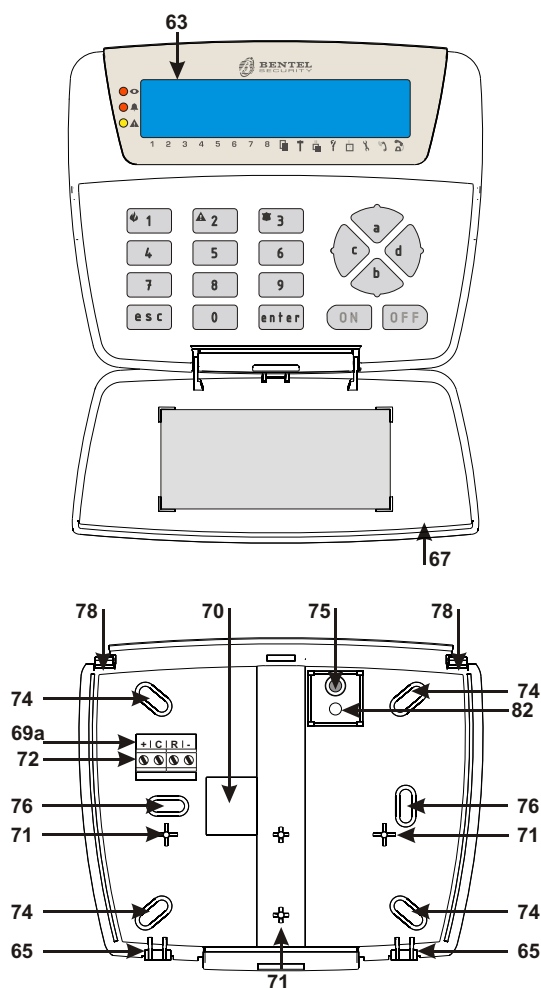

Figure 4 Parts of CLASSIKA LCD Keypad.
1. If the Keypads are closed, insert a little flat screw-driver in the slot **79** (see Figure 4) and rotate in the direction of the arrow. Open the keypad slightly (see the position of the hands, Fig 4, 5); one part will be composed of the cover with the mounted PCB and on the other hand, the backplate with the terminal board.
2. If you are surface mounting the Keypad: drill the holes for the backplate anchor screws **76 (74)**, and if required, for the seize microswitch bracket screw **82**.